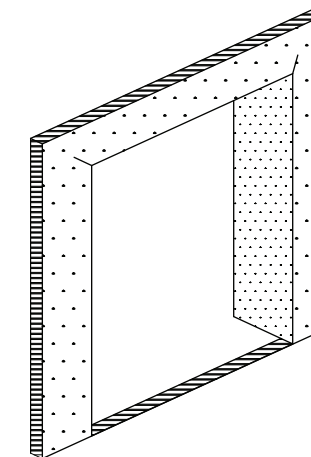

Figure 3
- C) Fold the WRB into the opening and secure, trimming excess as necessary. **See Figure 3**